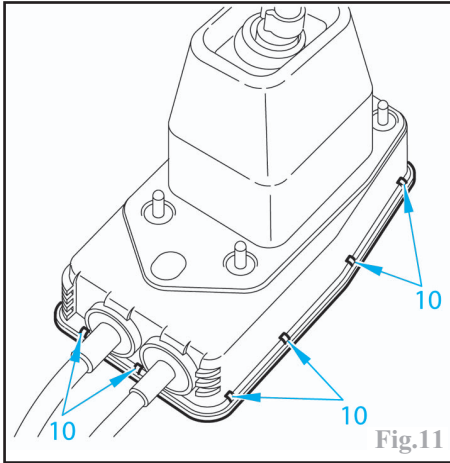

Fig.11
Couper les 12 ergots (10) (Fig.11).